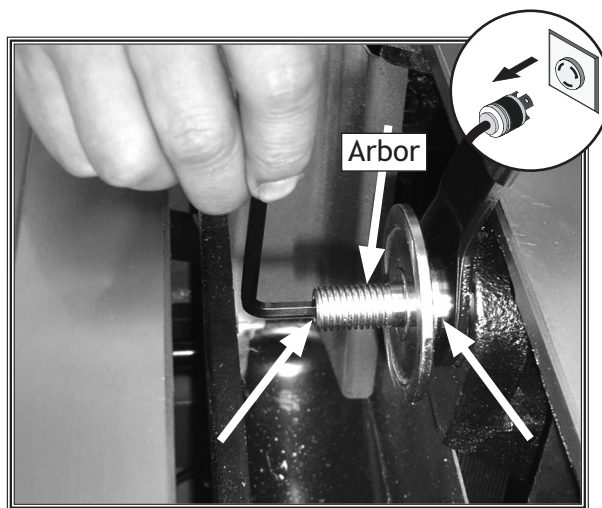

Figure 25. Removing arbor.
4. Hold the arbor shaft with the arbor wrench and, using a 5mm hex wrench, remove the cap screw from the end of the arbor, as shown in **Figure 25**. **Note:** Gently tap the arbor with a rubber mallet to unseat it if it is hard to remove.